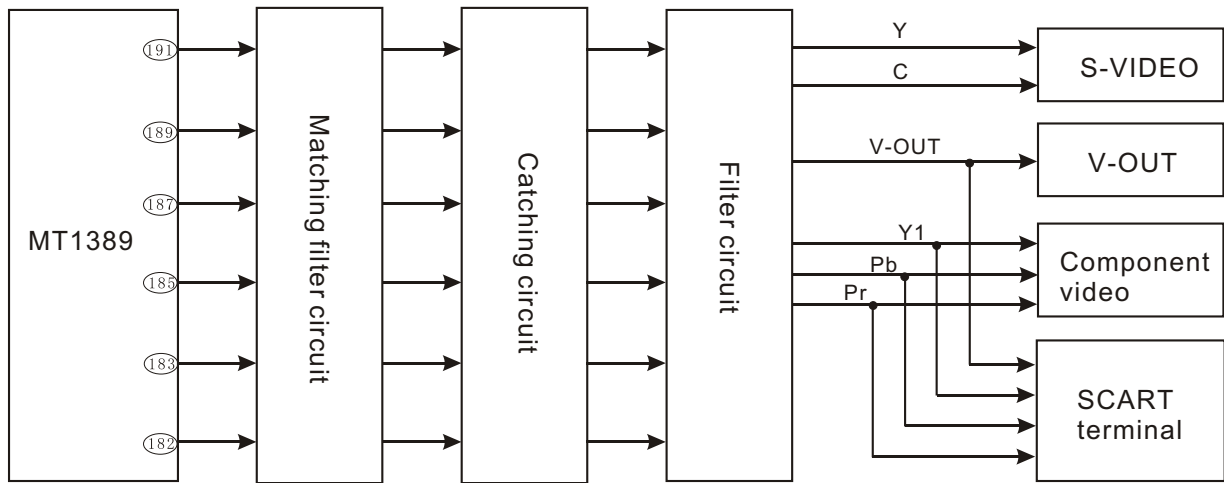

Figure 3.2.8.1 Video circuit block diagram
1. Video circuit block diagram is shown as the following figure 3.2.8.1:
2. Working principle: Brightness signal, colour difference signal, CVBS signal and component video signal after being decoded by U201 (MT1389) are sent out to the corresponding terminal for output after lowpass filtering and clipping. Take Y1 signal as an instance, the following figure 3.2.8.2 shows the working principle of filtering limiter circuit.